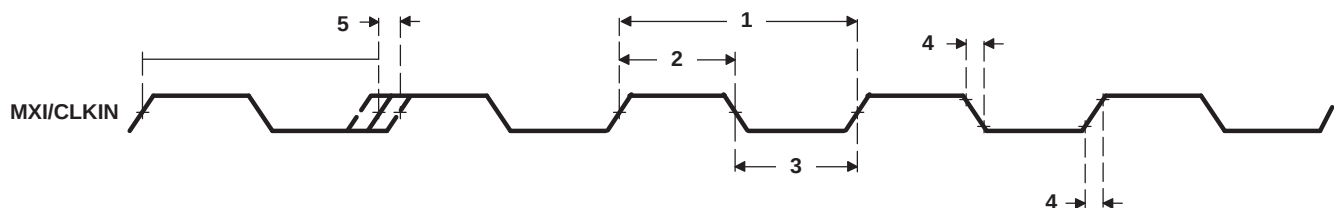

**Figure 6-14. MXI/CLKIN Timing**
**Table 6-16. Timing Requirements for MXI/CLKIN (-594) Devices(1) (2) (3) (4) (see Figure 6-14)**